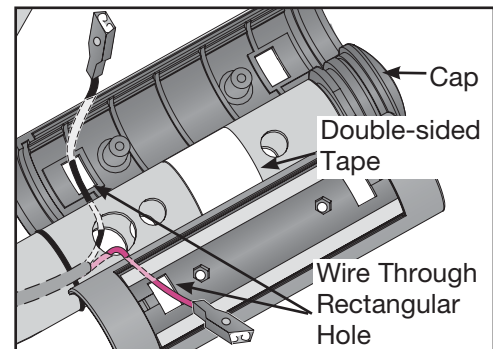

Figure 32
- C. Place each plastic grip near the handrail and pull each wire through a rectangular hole. See Figure 32. **NOTE:** *Don't let the wires slip back into their holes.*
- D. Fit the three plastic parts in position (the housing (2) and the cap (1)) and continue holding all plastic parts through the next step. See Figure 32.